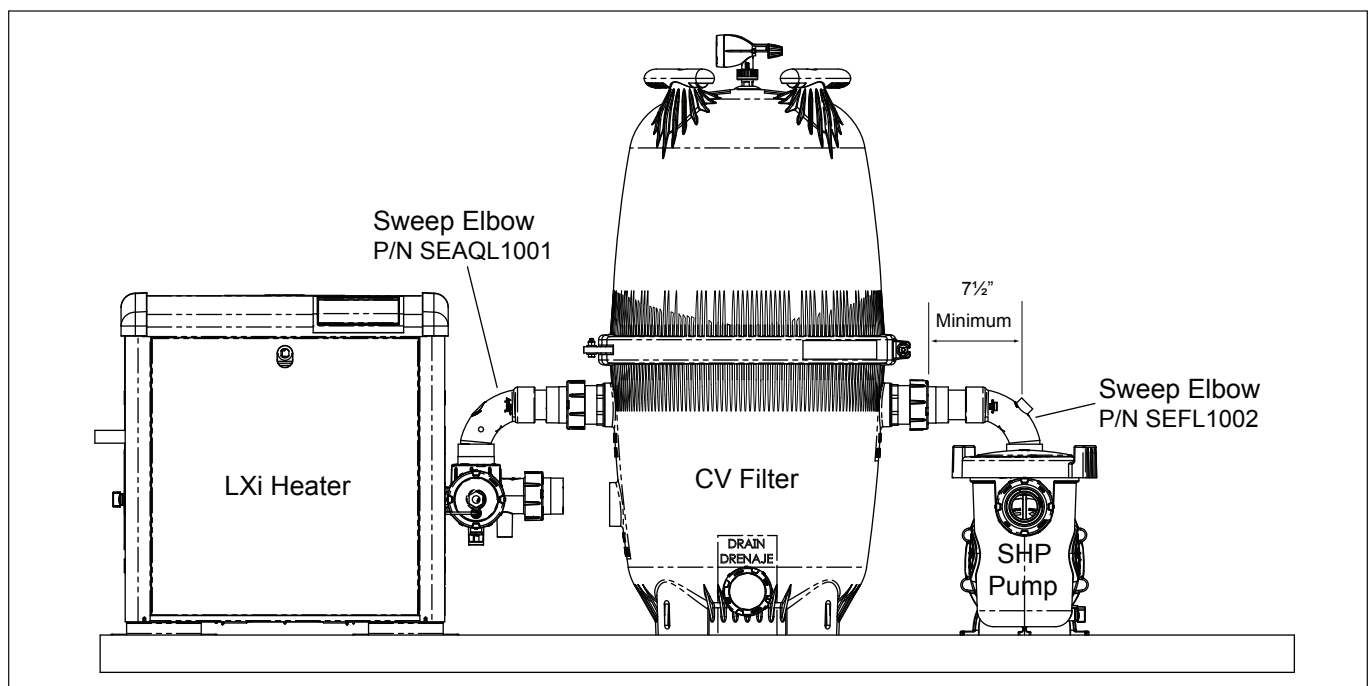

Figure 16. LXi Heater Sweep Elbow Installation
6. Clean the cut ends of the pipe and both ends of the sweep elbow(s) with an appropriate NSF® approved All Purpose cleaner/primer. Glue the sweep elbow(s) onto the cut pipe ends using an appropriate All Purpose NSF® approved adhesive/glue. See Figure 16.